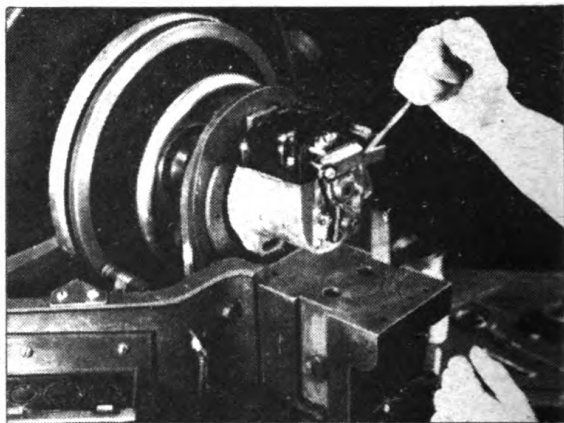

Fig. 44. Running Magneto on Synchroscope to Test Spark
2. Mount the magneto in the synchroscope. Fig. 44.
3. Hold a screw driver tight on the frame or bearing plate of the magneto so that it passes $\frac{1}{8}$ inch from the spring on the secondary lead wire from the coil. Fig. 44.
4. Run the magneto at full speed and spark should jump from spring to grounded screw driver. Fig. 44.